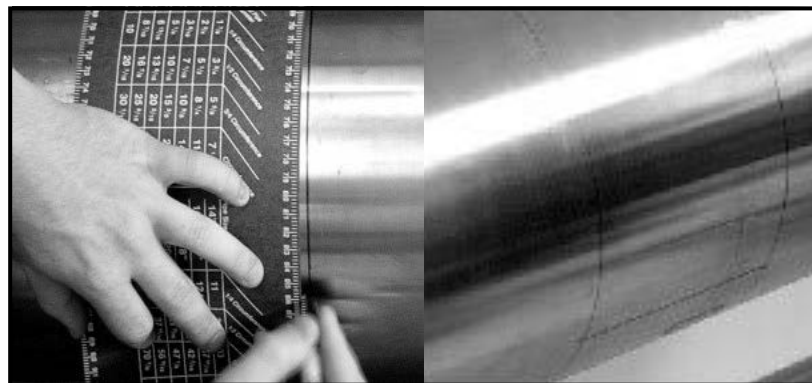

Figure 14: Marking the 9 o'Clock Position
4. To find the coinciding point on the opposite side of the pipe (180° away from each other), divide the measured circumference by 2 and measure this distance along the circumferential lines from the zero point, as shown in *Figure 14* below. Place marks on both sides of the circumferential lines made with the layout wrap and connect the marks.